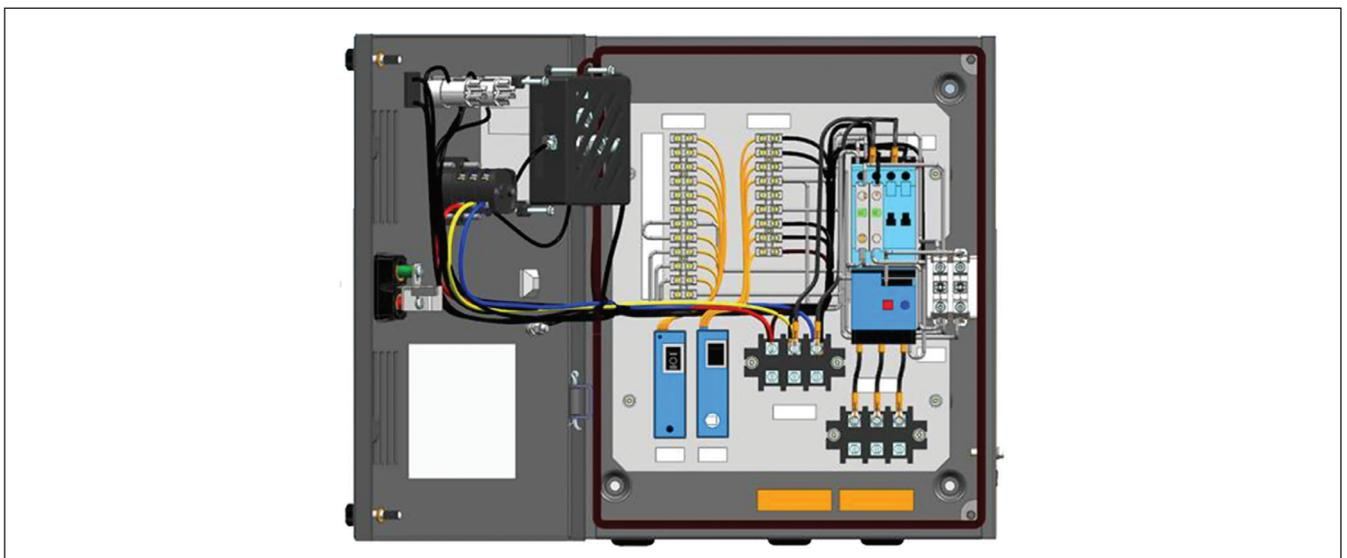

Fig. 2: DOL Controller with WLC inside view
- Remove the rubber grommets for the incoming and outgoing cable connections. (Refer Fig. 2).
- Connect incoming and outgoing cables as follows (Refer Fig. 2):
- Set the overload relay scale (Fig. 2) using proper screw driver as follows:
- Press green button of the contact block CB1 (Fig. 2) to start the motor and wait till it reaches to normal speed. Reduce the overload relay settings till it trips.
- Press the red knob (Fig. 2) on the overload relay to stop the motor.
Care should be taken to fix the relay terminals & relay to contactor in the exact position shown in Fig. 2.